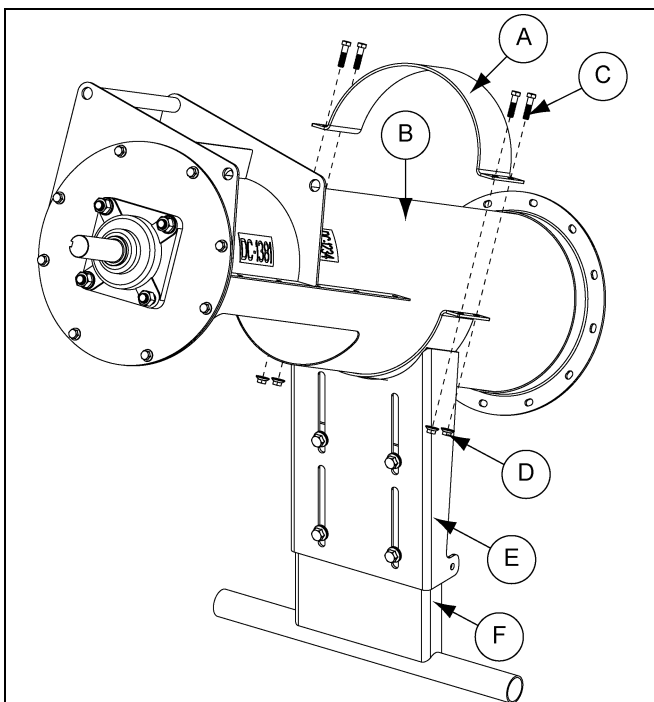

Figure 4B
1. Place stand plates (E and F) and half band (A) around tube (B) and secure together with 3/8" flange bolts (C) and flange nuts (D). (See Figure 4B.)